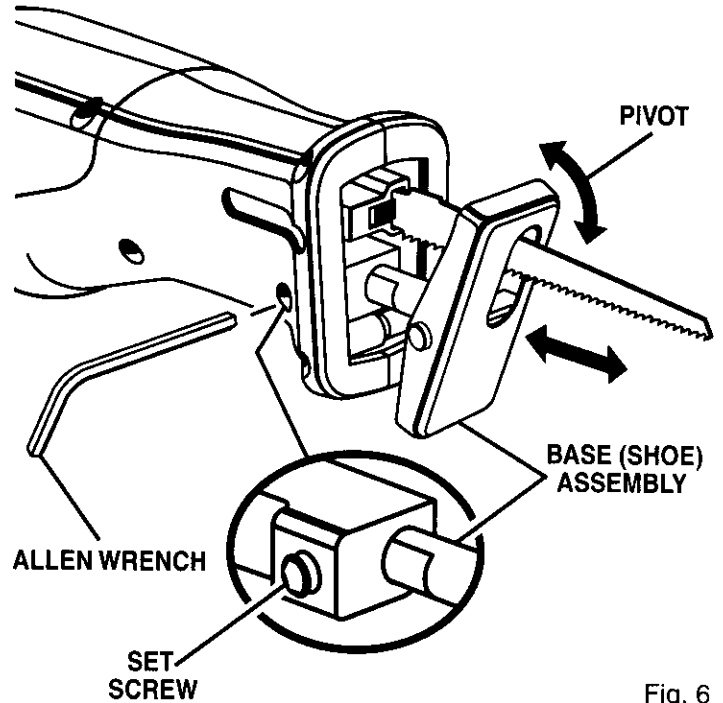

Fig. 6
See Figure 6.
- Loosen the set screw in the gear frame with the Allen wrench provided with this saw. See Figure 6.